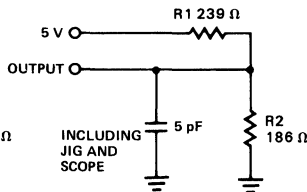

Figure 1b
6. t_{HZCS} is tested with load shown in Figure 1b. Transition is measured at steady state High level - 500 mV or steady state Low level + 500 mV on the output from the 1.5V level on the input.